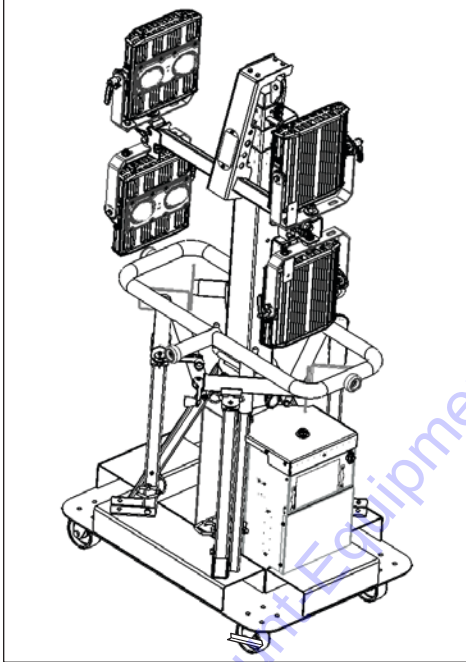

Figure 4
Before transporting, make sure that the portable light tower is in the transport position (Figure 4):
4. Pull the light arm pin, and rotate the light arm until the light fixtures are vertical as shown in Figure 4. Make sure that the locking pin engages one of the holes after adjusting. Repeat for the other light arm. See **Adjusting the Light Fixtures**.